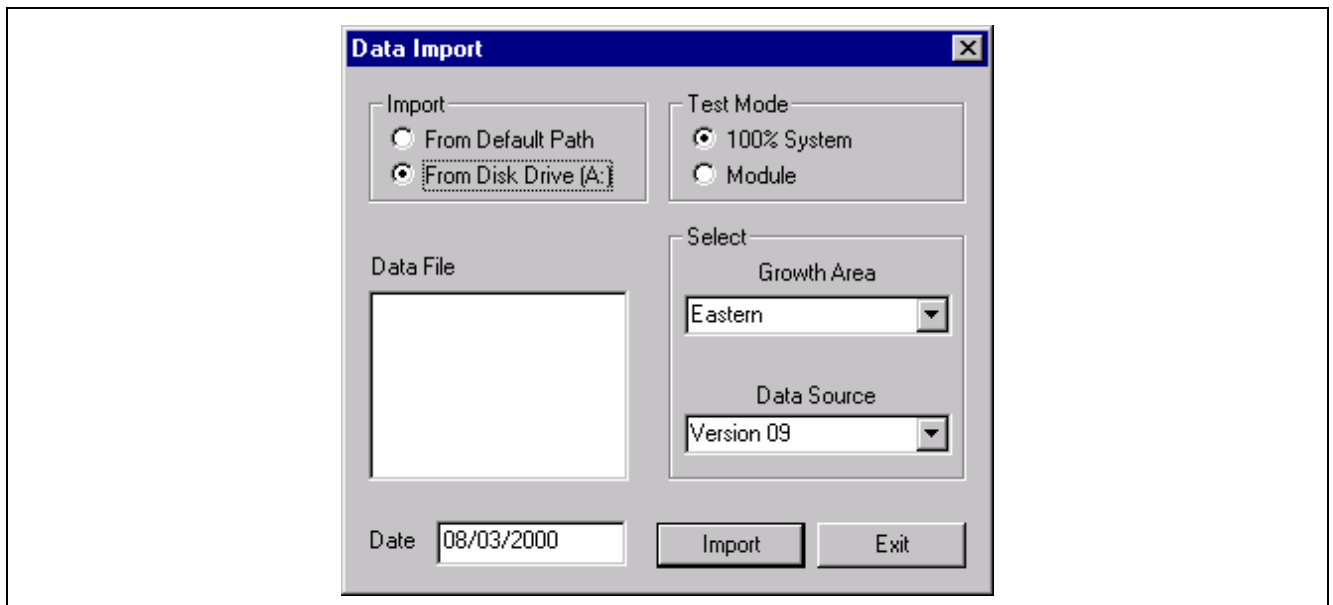

Fig. 6-31 Data Import, Screen II
10.2 Insert disk 1, ABC Yarns, Eastern Growth Area in the A drive on the computer. Under Import select "From Disk Drive A" ("From Default Path" would have been selected if data had come directly from the Database). Under Test Mode select "100% System", at Growth Area select "Eastern" and at Data Source select "Version 09" (Fig. 6-31).